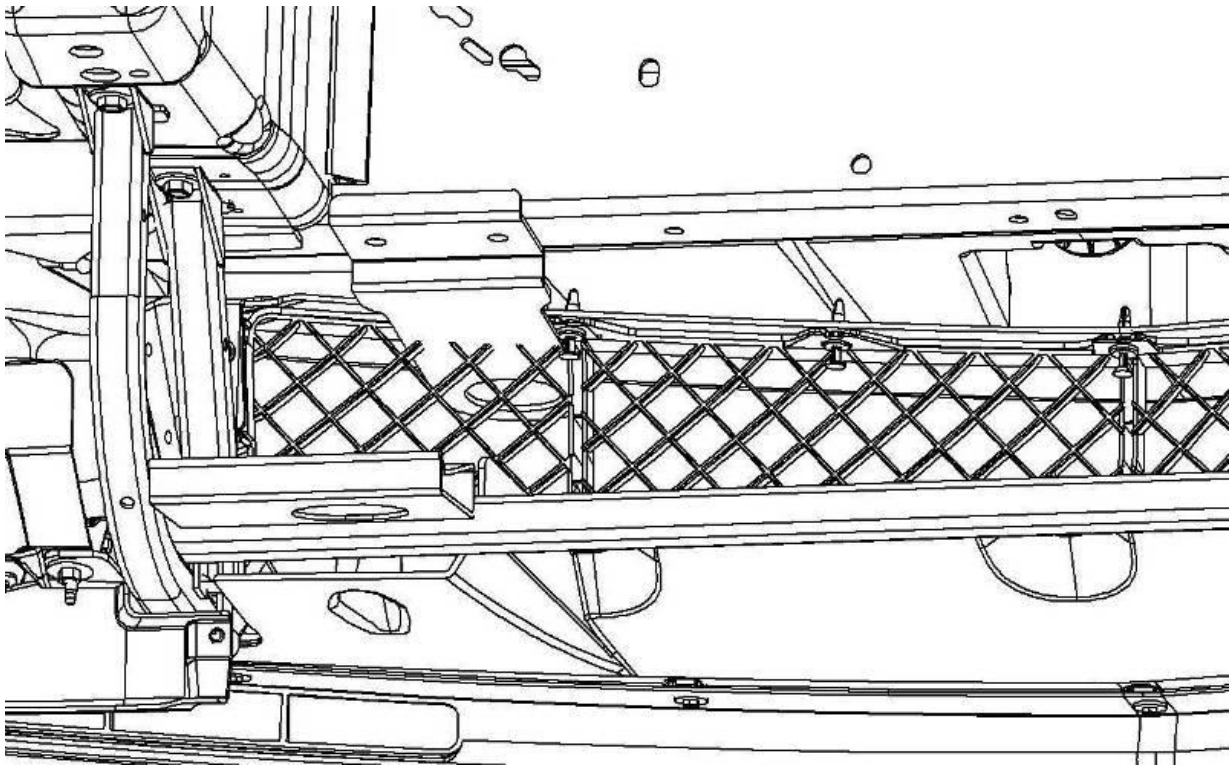
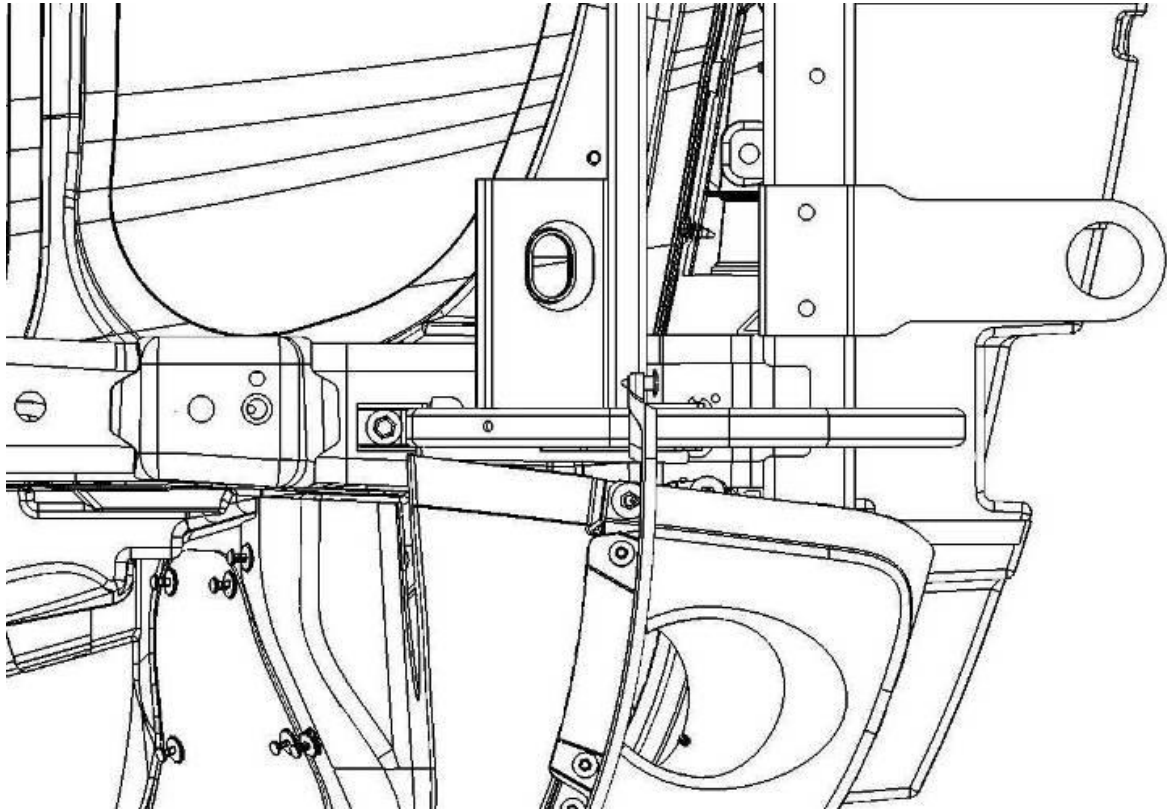
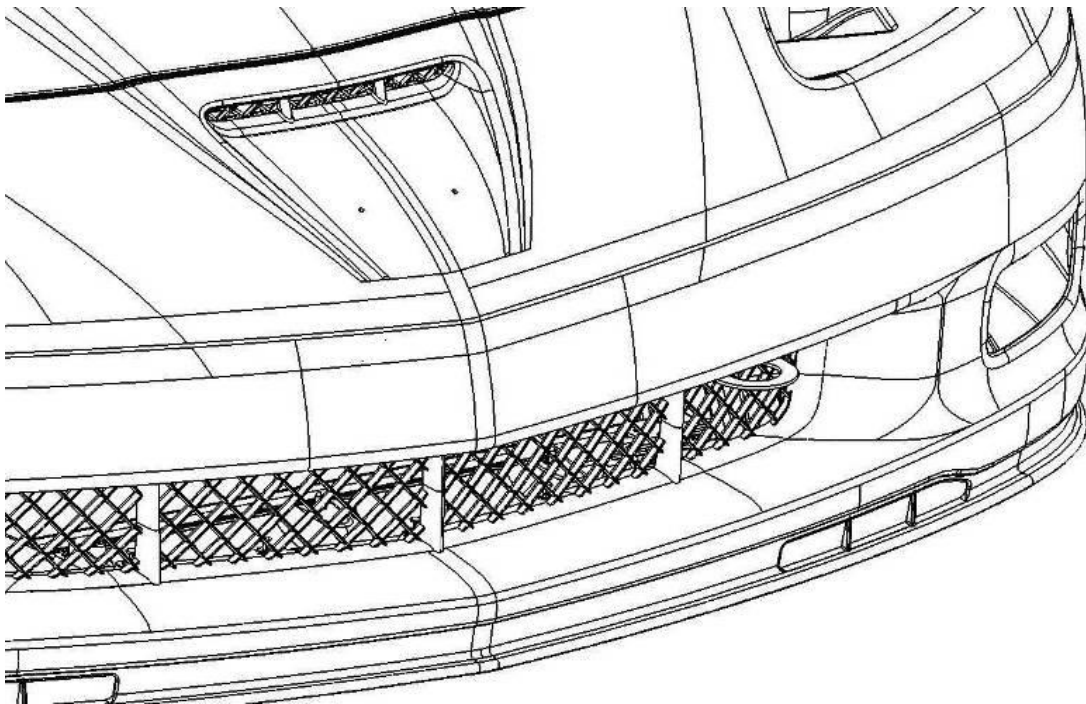

Figure 1: Looking from engine bay showing tow hook location
Figure 2: Looking from under the car showing tow hook location
Figure 4: Completed installation
- g. See fig 1, fig 2 and fig 4